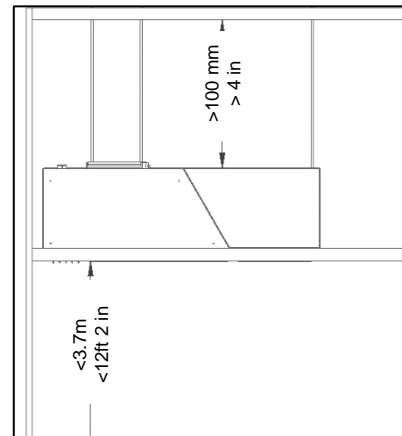

Figure 1
- at least 100 mm [4 in] clearance (air gap) above the air curtain in the ceiling void, see Fig 1